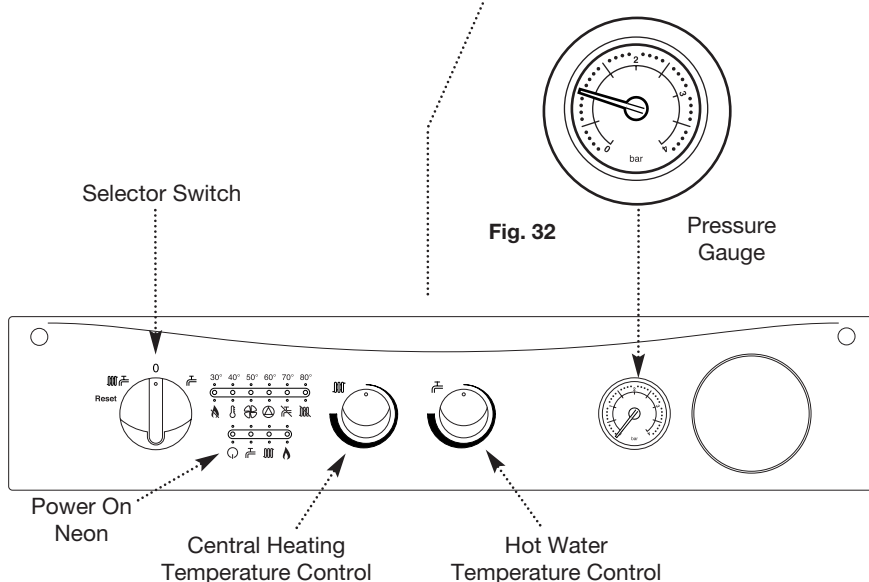

Fig. 33
10. If at any time during commissioning it is required to terminate a particular cycle, e.g. the pump overrun period, turn the selector to the OFF position and then back to either () or () (Fig. 33).